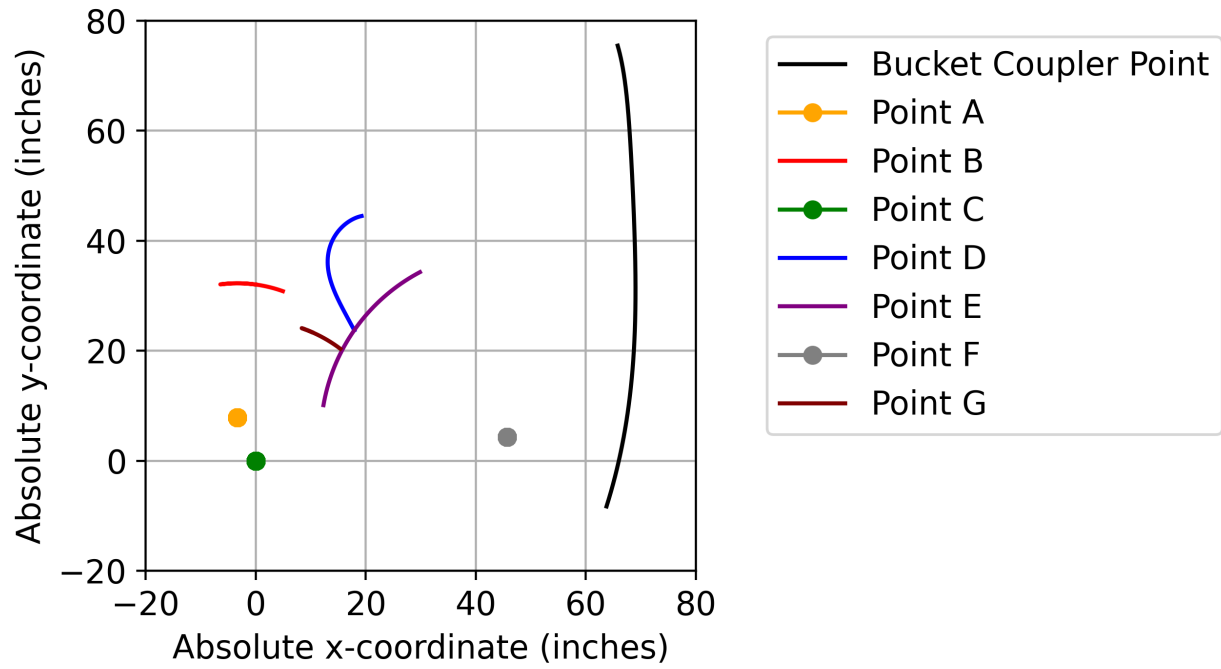

Figure 5: Path of absolute position of linkage joints
I then took this solution and used it to find solutions along a range of input angles. Because angles that are close together will have similar solutions, I was able to start at my calculated solution and use it as the initial guess for a slightly different angle. This would quickly converge to another solution close by, yielding a correct solution. Using this new solution as my next guess, I was able to repeat this and get the solution for a range of input angles. I then wrote equations for the absolute position of each joint in the linkage, with the origin at Joint C. The vector forms of these equations are shown below in eqs. (23) to (30). Using these equations and the range of solutions I found previously I plotted the path each joint followed for that range of angles, shown in Figure 5.